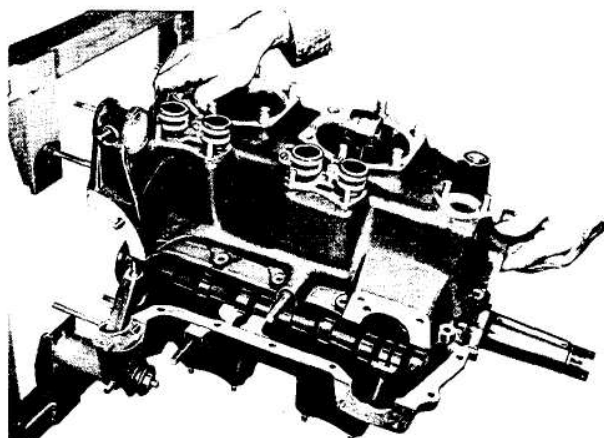

Figure 35. Installing Crankcase 1, 3 Side on 2, 4 Side.
- l. Early crankcases for all "C" models are notched at the lower front and upper rear edges of the No. 2, 4 side front main bearing to accept the pins installed in two thrust washers. Obtain two plain thrust washers and two with the short dowels installed at the center. Slide the plain half washers into the 2, 4 side crankcase recess; then place the dowel half washers against the crankshaft thrust flanges, and rotate each complete washer until the short dowel lies in a crankcase notch. (See Figure 35.)